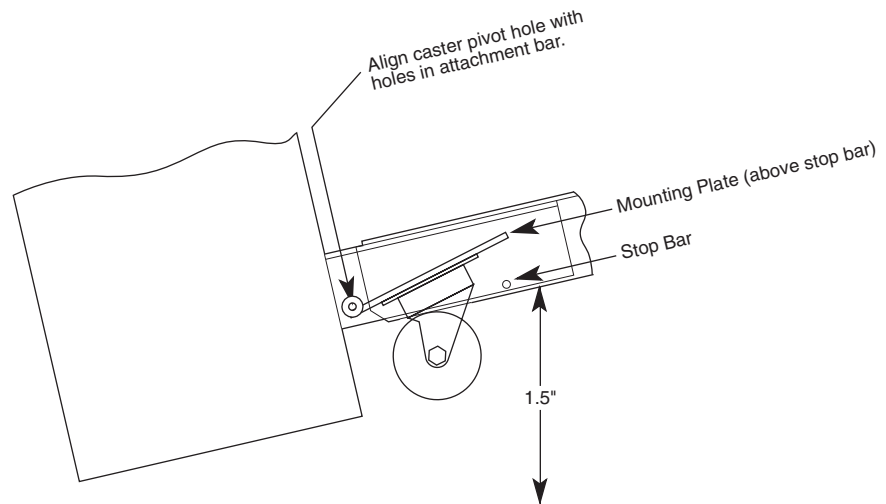

Figure 2.2 Installing Caster
1. Carefully tilt the first isolator so that the attachment bar is raised approximately 1.5 inches. (Figure 2.2).
2. Slide the caster, with its pivot hole toward the isolator, under the attachment bar. Ensure that the end of the caster mounting plate is above the stop-bar as shown in Figure 2.2.